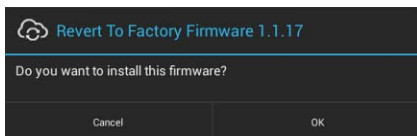

FIG. 118 System Prompt - Revert To Factory Firmware?
2. A System Message window is displayed that indicates the factory firmware version that will be installed, and prompting you to verify this action (FIG. 118):